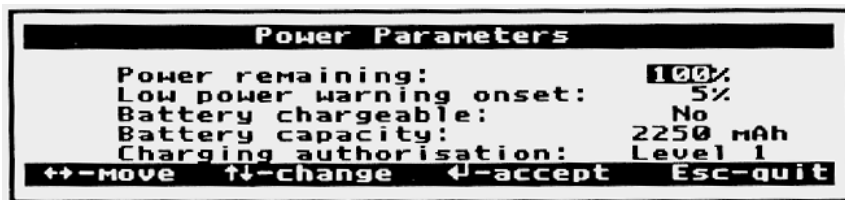

Figure A.2. FS/2 or FS/3 Power Parameters Screen
- If the FS/2 or FS/3 has been recharged, or if a power interruption has occurred (e.g., the batteries were replaced), then the FS/2 or FS/3 power parameters screen may appear (Figure A.2).